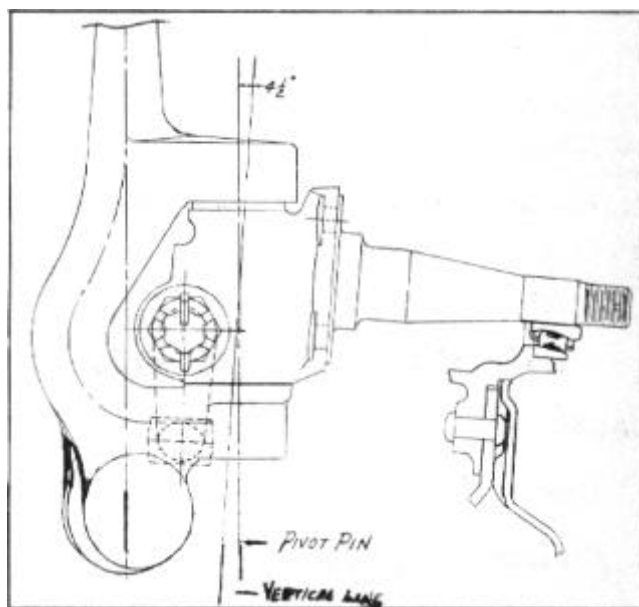

FIGURE 21
3. Support arms bent or twisted. Check wheel alignment by testing camber, steering pivot pin inclination and caster. If support arms have been removed from the car, check specifications as shown in Figure 21. Replace arms - do not attempt straightening.
6. Check Steering spindle support and steering arm alignment Figure 21 and 20. Replace if bent--do not attempt straightening.